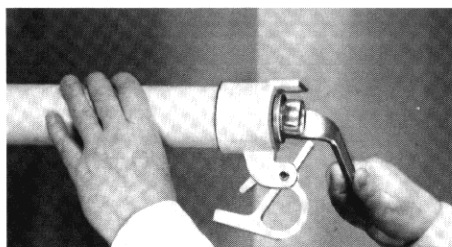

Figure 1
Step 1: Loosen cap nut with wrench and remove from top of fuse holder. (Fig. 1.)